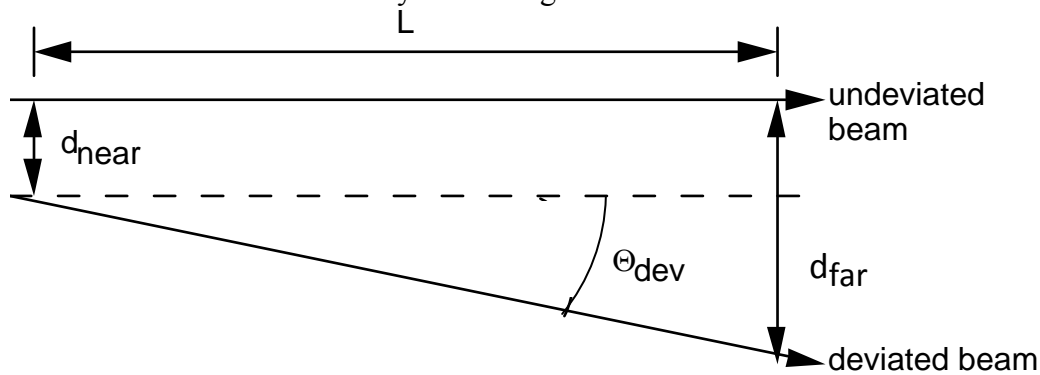

Fig. 5: Deviation of beam going through slab.
8. In practice, the laser beam may emerge not only displaced laterally, but also making some angle Θ_{dev} with respect to the incident path. Referring to figure 5 below, use the equation (valid for small angles measured in radians)